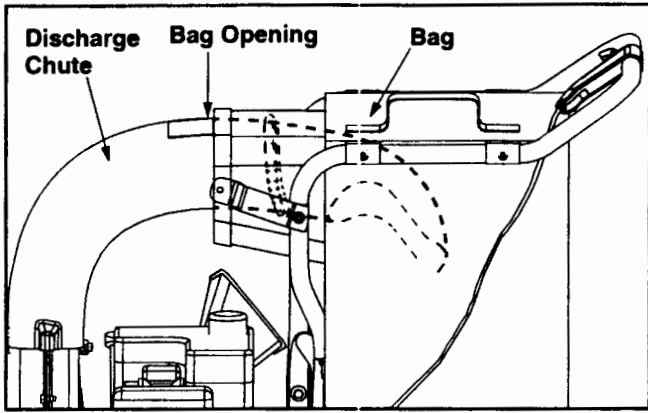

Figure 6
- Place bag under of upper handle assembly and slip the front opening on the bag over the discharge chute, making certain it is over the rim on the discharge chute. See Figure 6.